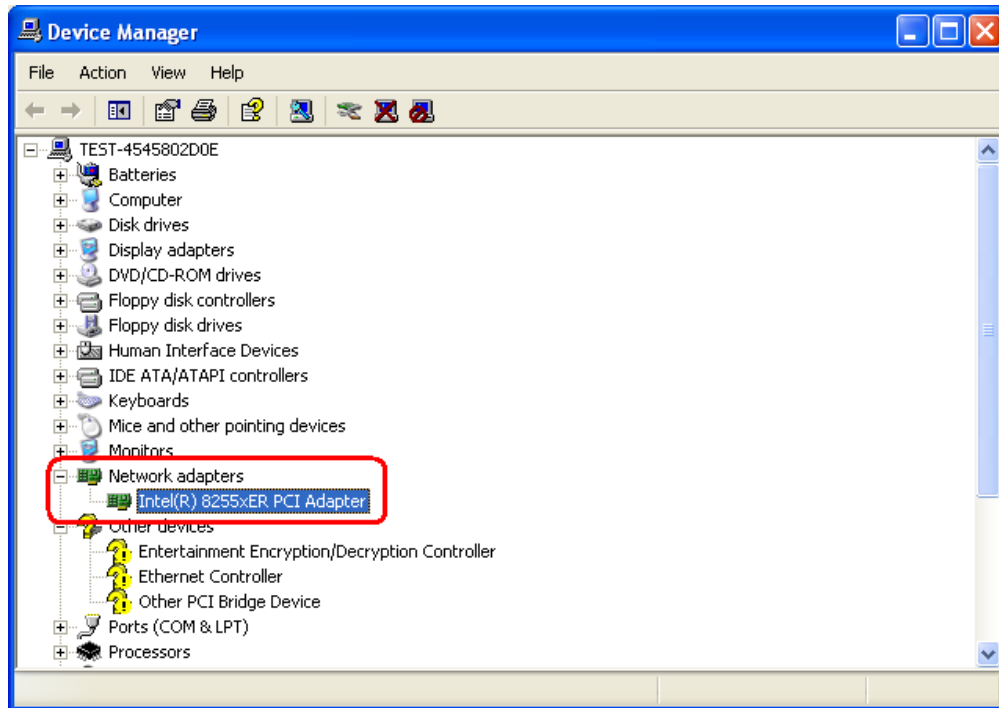

Figure 7-33: Device Manager Update
Step 16: The Device Manager refreshes and the Ethernet Driver can be seen in the Network Adapters option. See **Figure 7-33**.